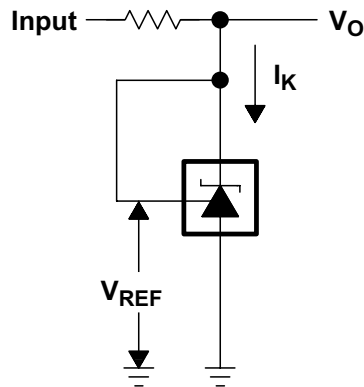

Figure 22. Test Circuit for  $V_{KA} = V_{REF}$ ,  $V_O = V_{KA} = V_{REF}$
T A = full range (1) (see Figure 22)